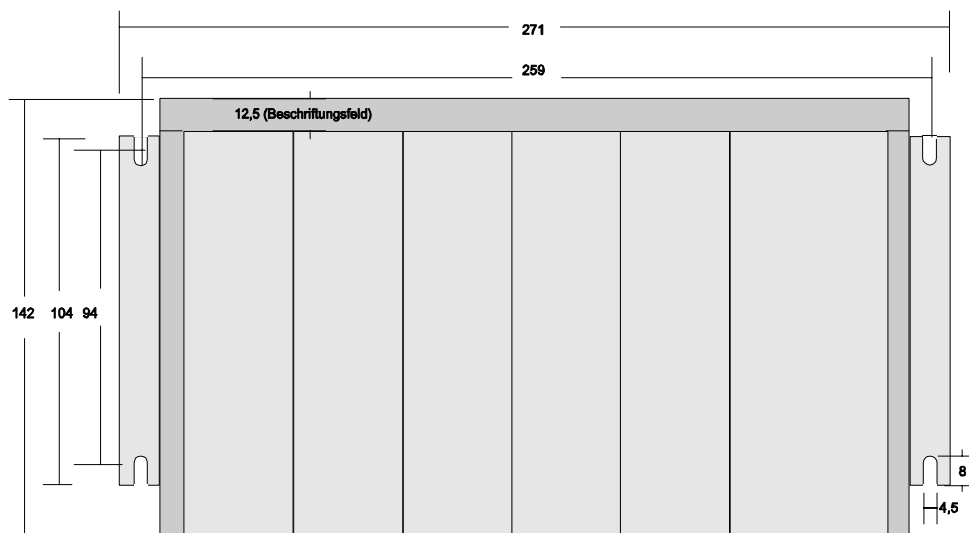

Figure 4.1 Dimensions of AF TE1 enclosure for TC 816 heat tracing controller. All dimensions in mm.
- Height: See figure 4.1
- Width: See figure 4.1
- Mounting holes: See figure 4.1